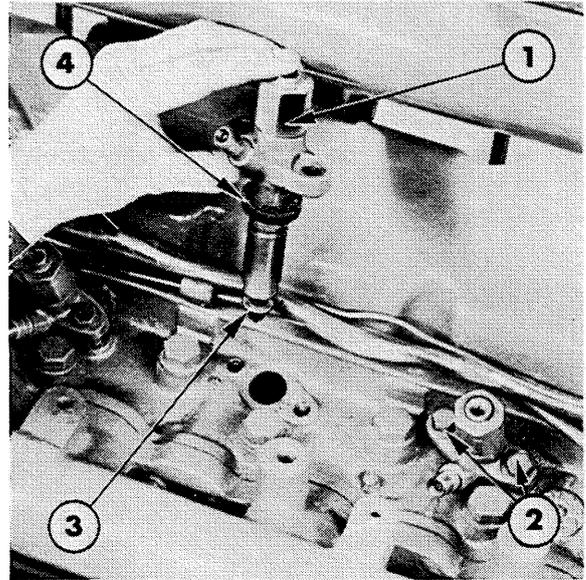

Figure 6
15. Hold the leak-off pipe at each injector and carefully disconnect the fuel injector leak-off pipes. Clean the area surrounding the fuel injectors then remove the bolts and carefully withdraw the fuel injectors and washers, Figure 6.